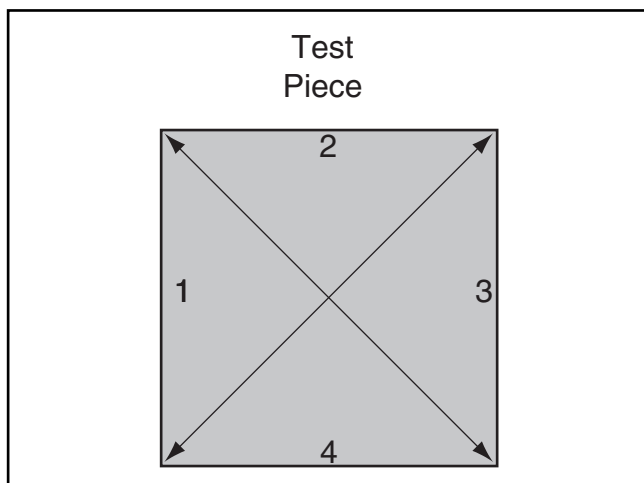

Figure 94. Crosscut fence adjustment test piece.
5. Measure the test piece diagonally from corner-to-corner, at all four corners, as shown in **Figure 94**.